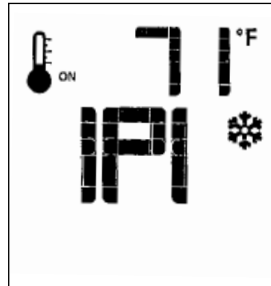

Figure 16.6. IPI is the default position.
- With the transmitter in the OFF position, press the transmitter Mode key - IPI is the default mode. Fig. 16.6.